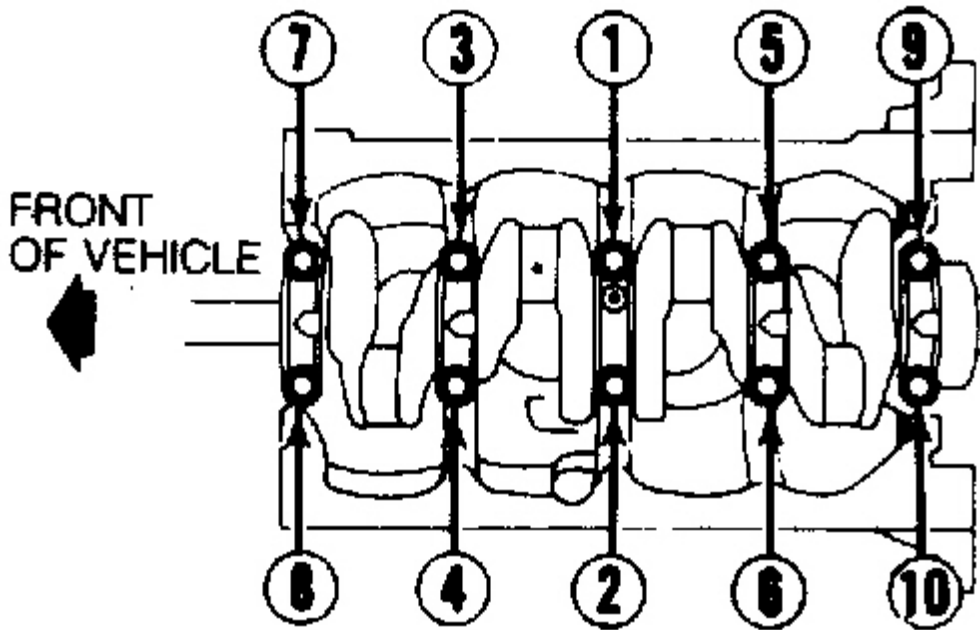

Fig. 14: Main Bearing Tightening Sequence
1. Remove main bearing caps evenly in 3 stages, in reverse order of tightening sequence. See Fig. 14 . Check bearing clearance.
4. Tighten main bearings to specification in sequence. See TORQUE SPECIFICATIONS TABLE at end of article. See Fig. 14 .